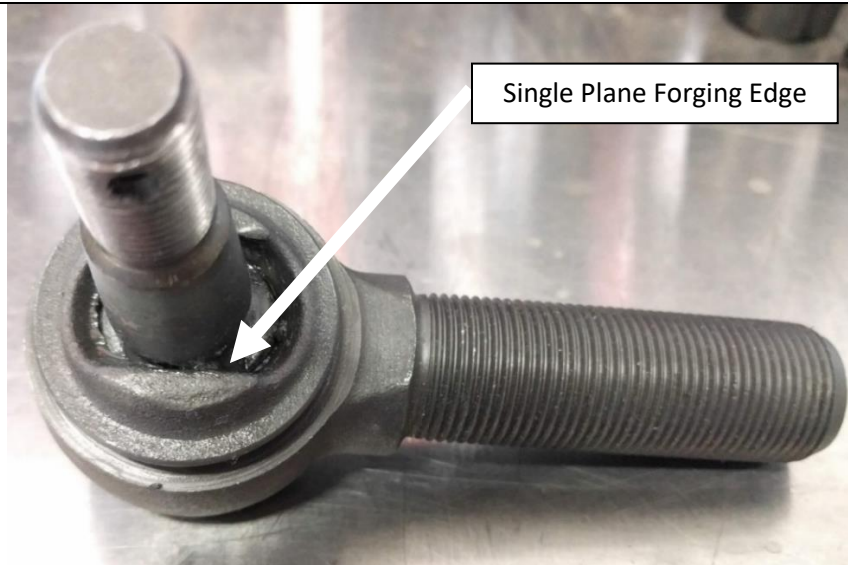
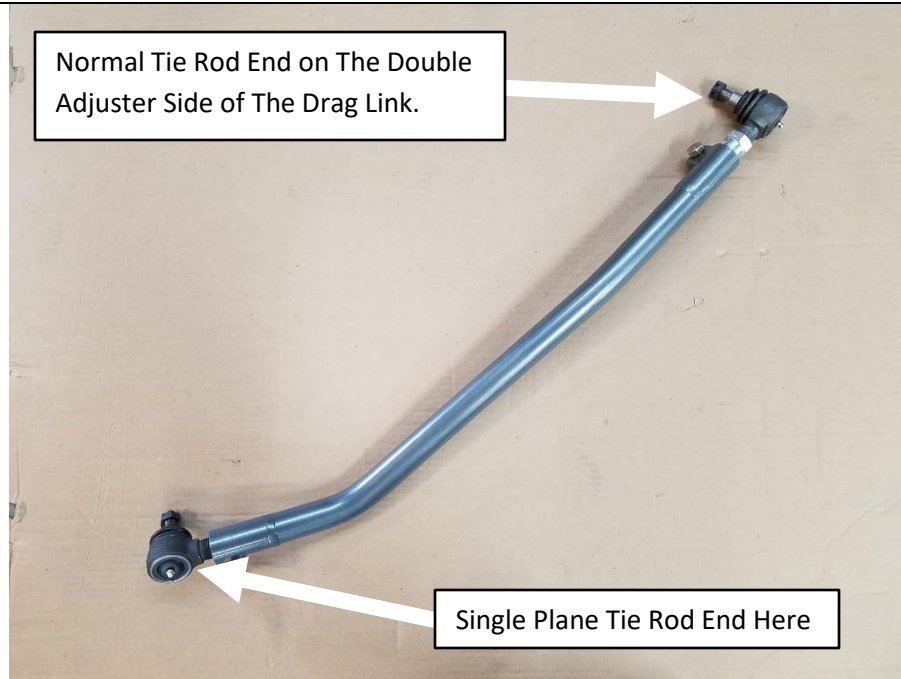

Figure 12. Single Plane Tie Rod End, Boot Removed, to be Installed at Tie Rod
Figure 14. Tie Rod End Locations
18. Verify that the tie rod ends are installed on the correct sides of the drag link. Remove the boots and make sure the Single Plane tie rod end is at the end of the drag link that installs in the Tie Rod (non double-adjuster side). The regular tie rod end should be on the pitman arm side with the double adjuster. See **Figures 12 and 13** for the difference between the single plane tie rod end and the normal tie rod end. See **Figure 14** for their location on the drag link.